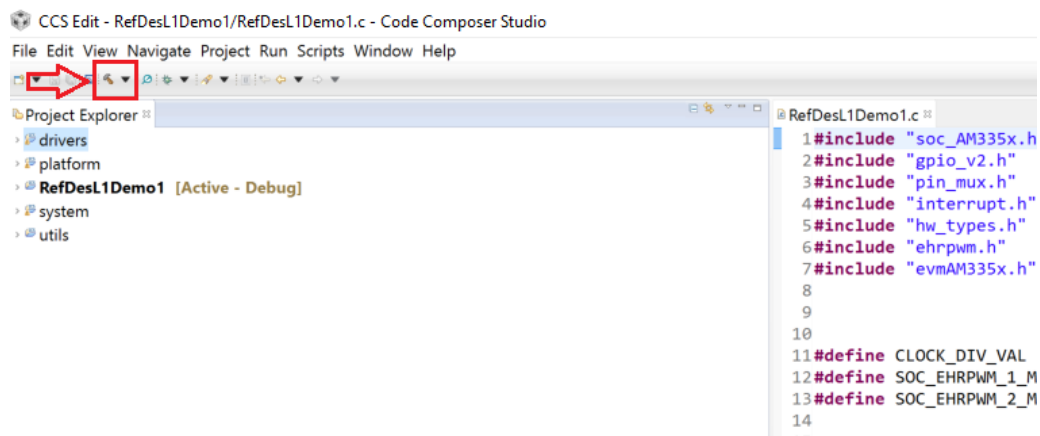

Figure 75 CCS Build button
Delete the default *init.asm* file under this project and replace it with the modified *init.asm* file (can be downloaded from the link above) as shown in Figure 74. Build the project using the **build button** as shown in Figure 75.
- Build each of the above projects by selecting the project and hitting the **build** button as shown in Figure 75.